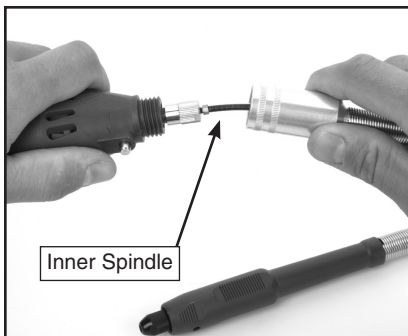

Figure 3. Flex shaft components.
2. Loosen the collet nut, and remove the collet shield as shown in **Figure 3**.
3. Slide the inner spindle (**Figure 3**) partially out of the flex shaft.